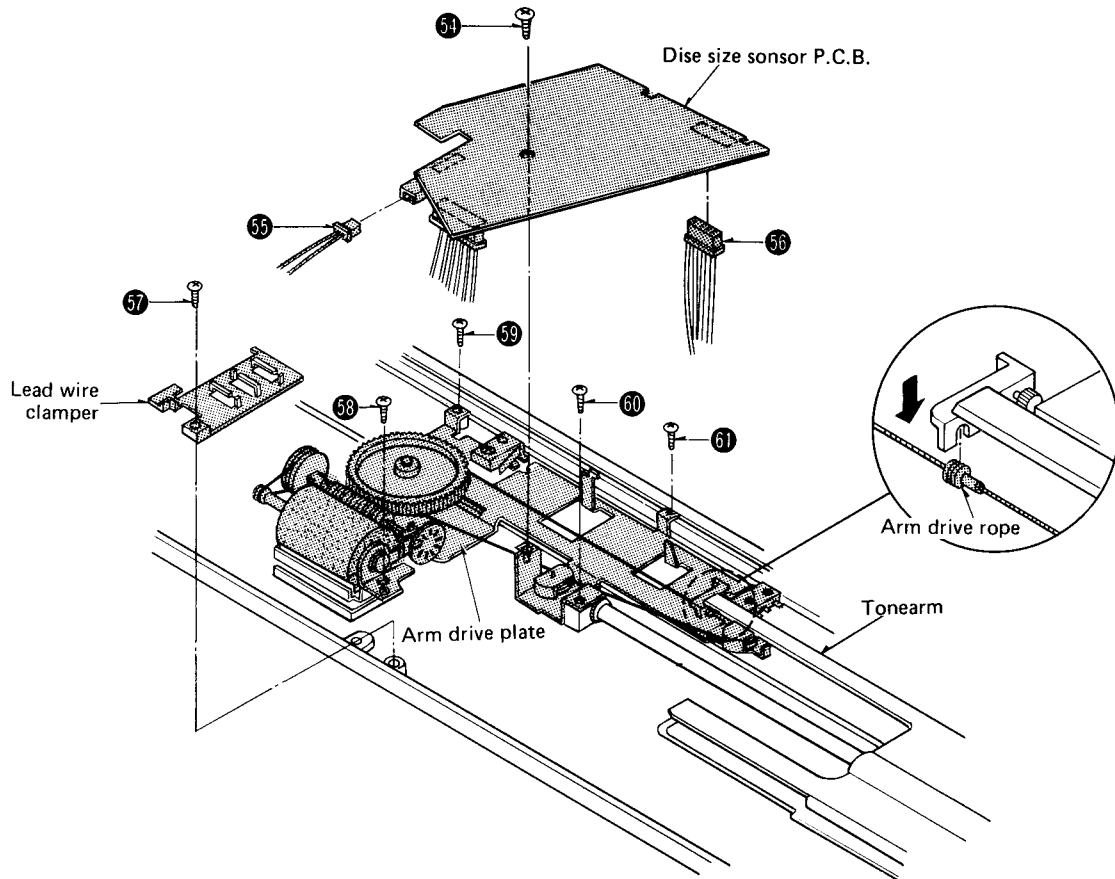

Fig. 12
2. Remove the disc size sensor P.C.B. setscrew 54 and connectors 55, 56. (Fig. 12)
3. To remove the disc size sensor P.C.B. completely, remove the upper cabinet and the lead wire clamber setscrews 57 in Fig. 12. (Refer to "How to remove the upper cabinet.")
4. Remove the arm drive rope from the tonearm, and remove the arm drive plate setscrews 58 ~ 61. Then the arm drive board can be detached. (Fig. 12)